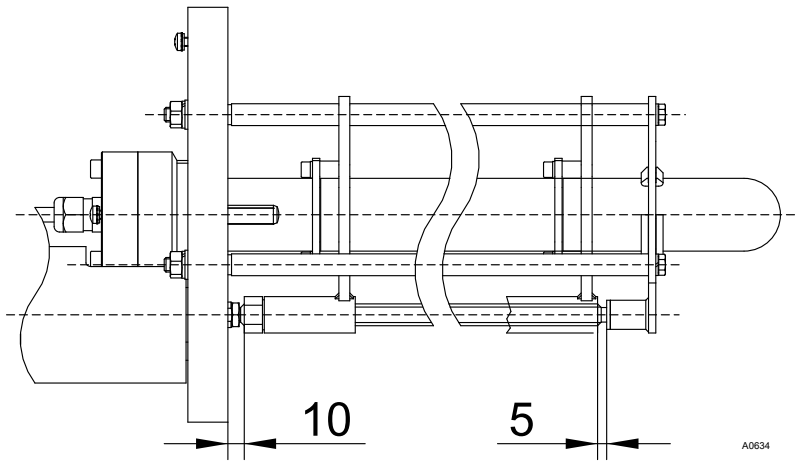

Fig. 21: Adjustment instructions end stop
- 15.** Now adjust the end position of the wiper. This is described in the adjustment instructions of the actuator motor. Adjust the wiper so that the wiper stops as shown in Fig. 21 5 to 10 mm in front of the stops